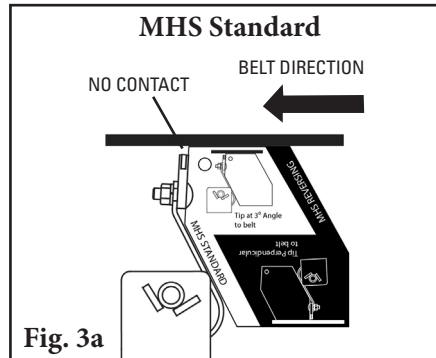

Fig. 3a
For MHS Standard: Rotate the pole until the tips align with the white “MHS Standard” side of the tip setup gauge provided (Fig. 3a).
Rotate the pole until the tips align with the white “MHS Standard” side of the tip setup gauge provided (Fig. 3a).
- 3. Set the blade angle.** Centre the pole/blades on the belt. Rotate the pole until the tips are perpendicular to the belt (Fig. 3). Tighten the two locking bolts on each torsion pole mount to lock the pole in place (Fig. 3a). There should be no blade-to-belt contact while locking the pole in the correct position. If contact occurs, double-check the dimension from Step 1.